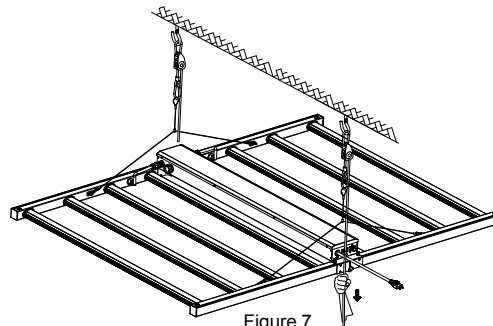

Figure 7
- 7: Hang the assembled light on the 1/8" lifting pulley sling hook. (Figure 7)